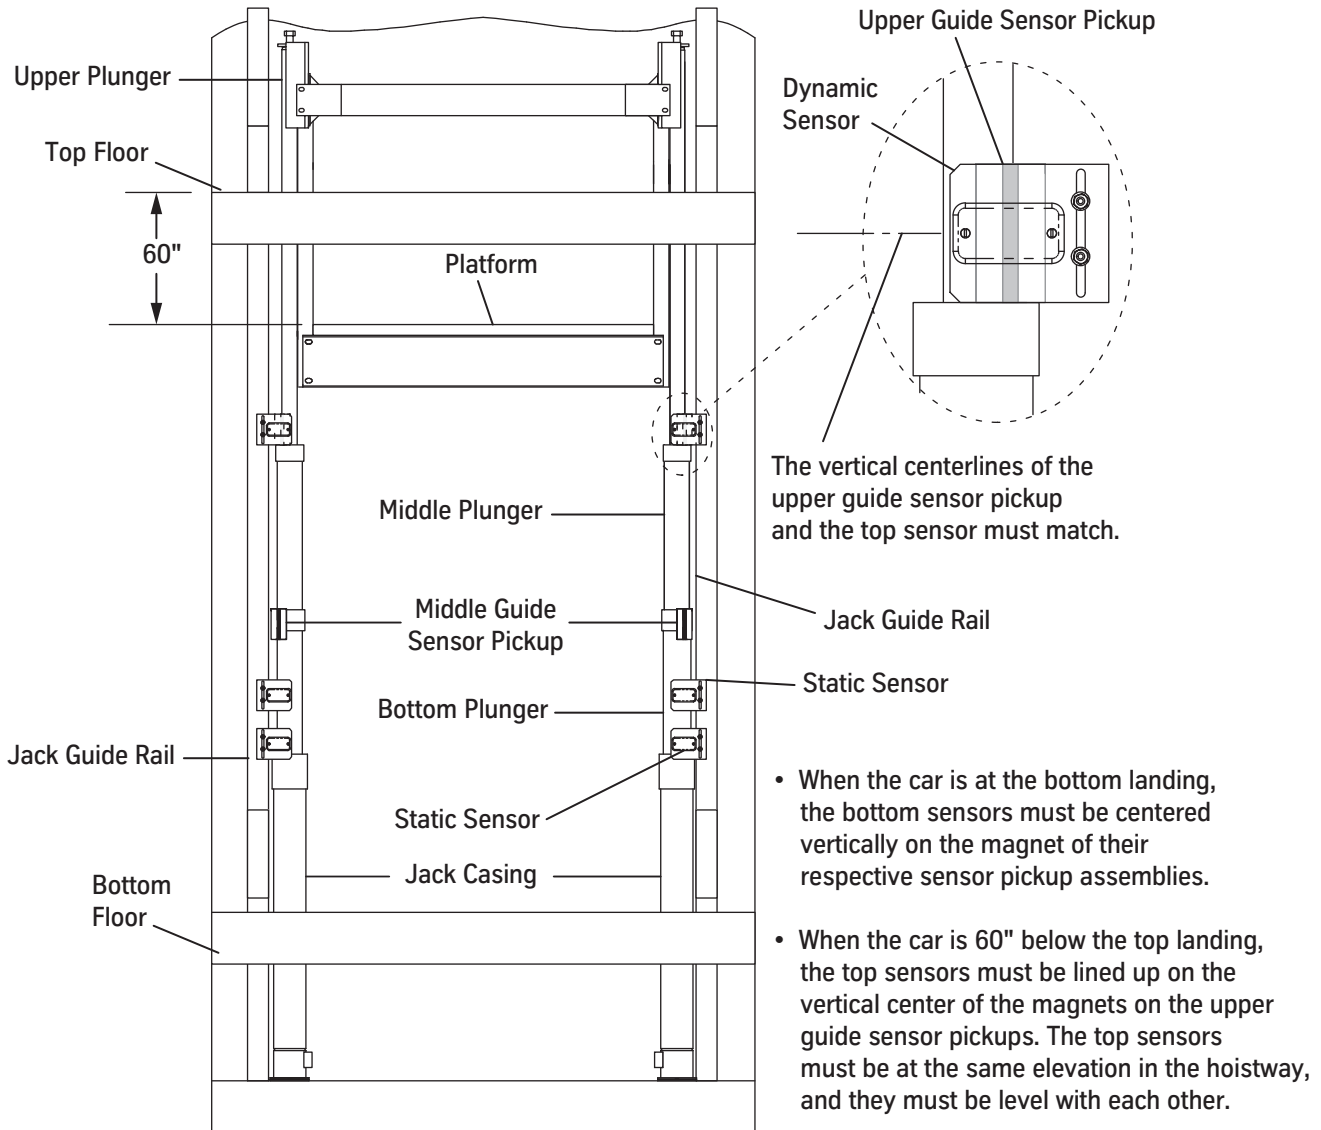

Figure 47 - Dynamic Sensor Installation
1. Manually resync the jacks. See Figure 47 on page 78.